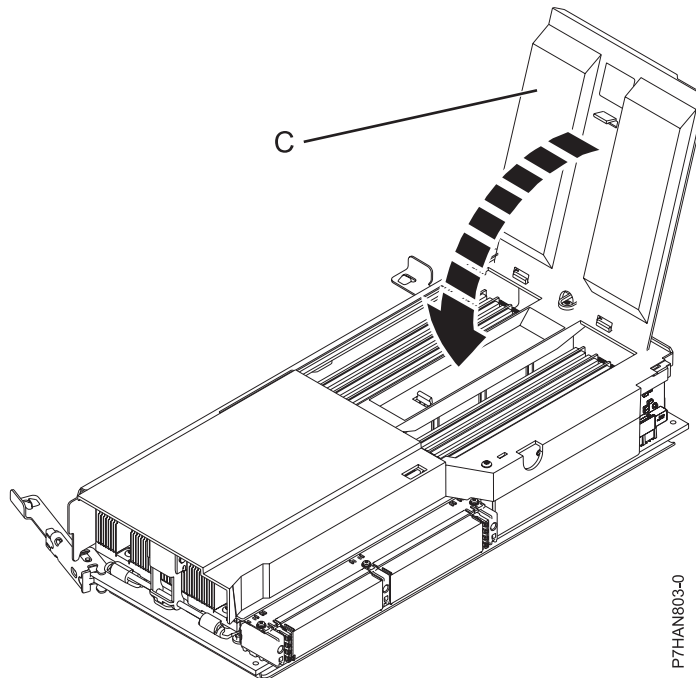

Figure 3. Closing the memory module cover
15. Close the memory module cover (C) until it locks in place, as shown in Figure 3.